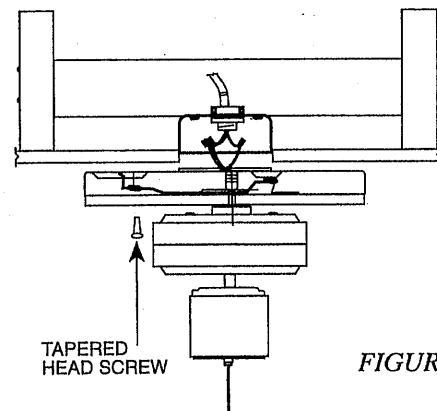

FIGURE 10
**C.** After making the wire connections, the wires should be spread apart, with the white and green wires on one side of the outlet box, and the black wires on the other side of the box. The splices should be turned upward and pushed carefully into the outlet box. See Figure 10.
**D.** Complete hanging of the motor by rotating it upwards as shown in Figure 10 and mounting with 3 tapered head shoulder screws supplied.